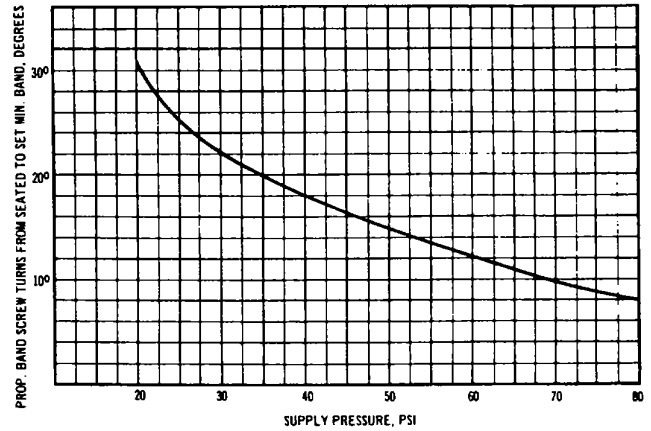

Figure 6 - Location of Minimum Band Setting
1. Open operating medium supply line. Adjust pressure reducing valve to supply proper operating pressure to temperature pilot. See Figure 6 for correct values.
2. Turn adjusting screw knob (46) to supply sufficient operating medium pressure to control valve to bring it into opening position. See Figure 6 for values and reference notes on the particular control valve in use.
5. Observe temperature rise of fluid under control. When desired temperature is reached, adjust operating pressure to control valve by turning adjusting screw knob (46) until valve just closes.